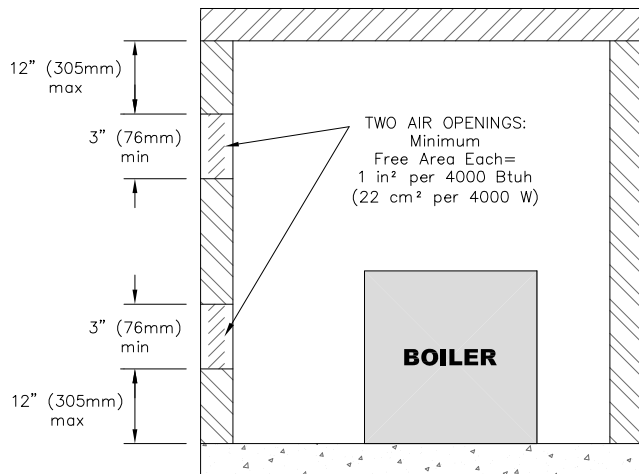
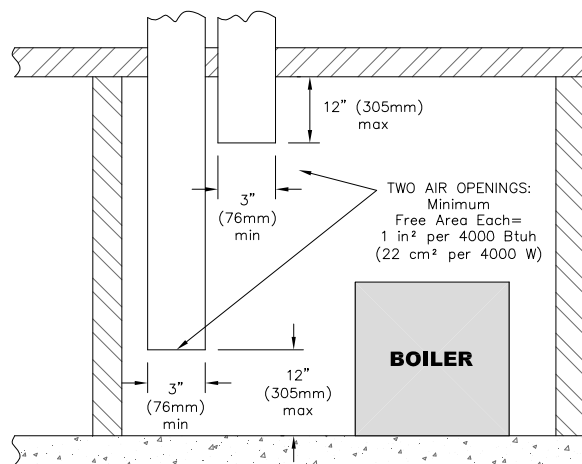

Figure 1.3: Air Openings - All Air Directly from Outdoors
Figure 1.4: Air Openings - All Air from Outdoors through Vertical Ducts
- i. Where communicating directly or through vertical ducts with the outdoors each opening shall have a minimum free area of 1 in² per 4000 Btu/hr (22 cm² per 4000 W) of total input rating for all equipment in the space. See Figure 1.3 for openings directly communicating with the outdoors or Figure 1.4 for openings connected by ducts to the outdoors.